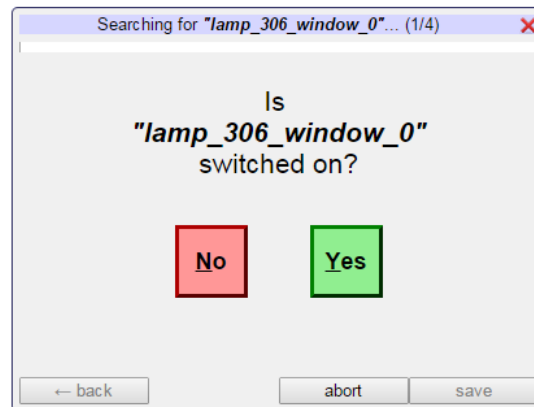

Figure 266: DALI Search Wizard.
5. This starts a binary search to identify the ballast(s). A dialog as shown in Figure 266 appears.